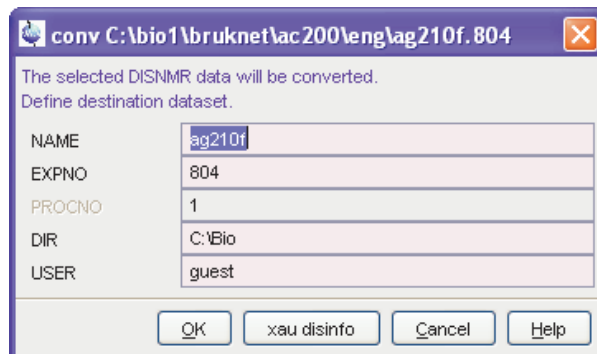

Figure 12.1
3. In the appearing dialog box (see Figure 12.1)
The dialog box in Figure 12.1 shows the button *xau disinfo*. Clicking this button executes the corresponding AU program showing the relevant dataset parameters.